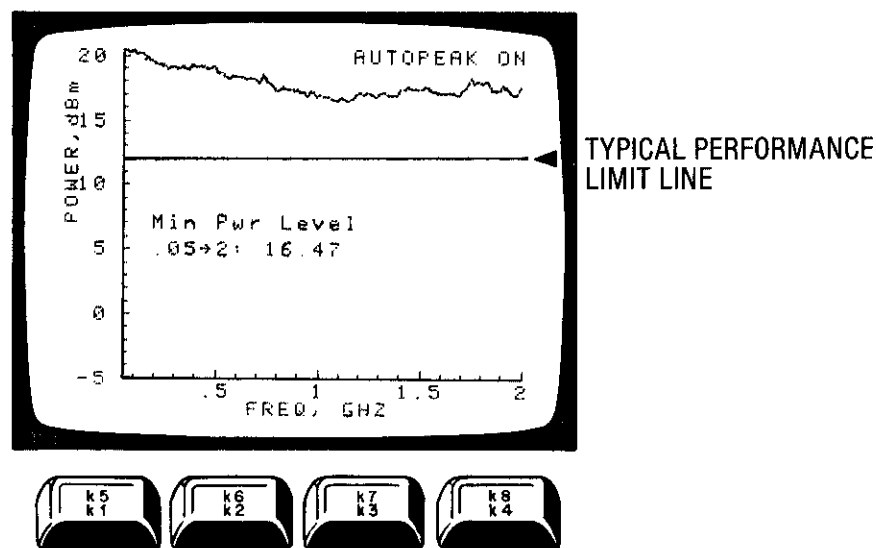

Figure 8-23. HP 8673C/D Low Band Power Plot
55. Compare the plots taken in Step 54 with the corresponding plots in Figures 8-23 through 8-25. There are three possible results:
a. The plots taken in Step 54 are essentially the same as the corresponding plots in Figures 8-23 through 8-25. If this is the case proceed with AM/ALC CHECK beginning with Step 56.
c. The power at one or more of the frequencies in one or both of the plots taken in Step 54 is significantly lower than the power for the corresponding frequency in Figures 8-23 through 8-25, but not below the Typical Performance limit line. This would not necessarily indicate an output power problem but could affect AM and/or ALC operation. Proceed with AM/ALC CHECK beginning with Step 56.